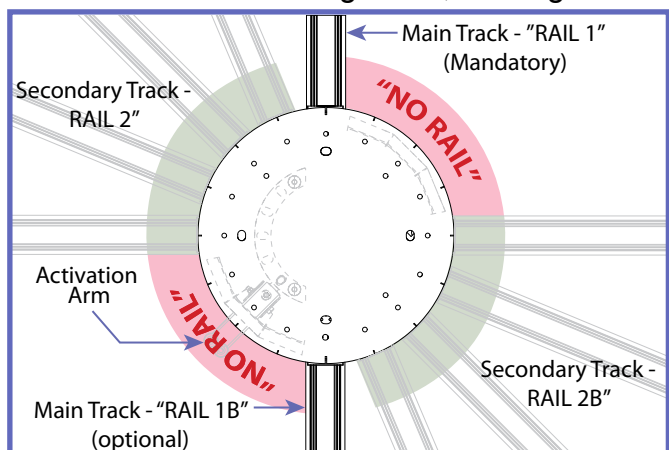

Fig. 19
- 3) Setup the track layout on the floor with the turntable track facing down, see Fig. 19.